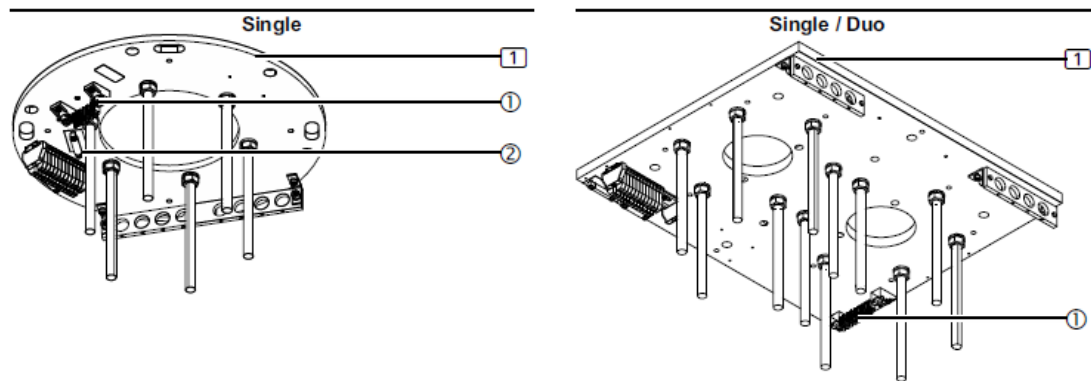

Fig. 46 Connection of the earthing cables on the interface board
Figure 46 shows a simplified illustration of the interface board (1) without extension arm and cables, etc. Wiring shall always start with the equipment grounding wires.